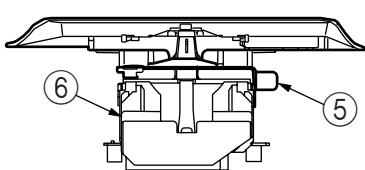
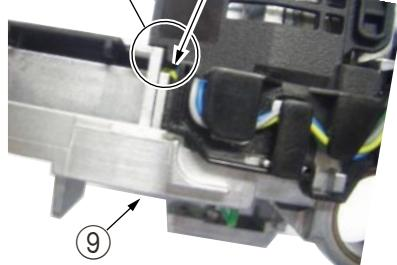

Figure 3.3.4
Figure 3.3.5 ( View B )
- (2) The head clamp ⑤ must surely be sandwiched between printhead ⑥ and carriage frame ⑨ as shown Figure 3.3.4.
- (3) Be sure to check the gap between platen and printhead (see 4).
- (4) Be careful not to touch the print head while it is very hot.
- (5) Make sure that there is not any dust or oil on the connector contact section A. If it is found, wipe it off by alcohol.
- (6) Attach the fan cover ④ carefully not to get the paper width sensor cable ⑧ caught. (Figure 3.3.5)